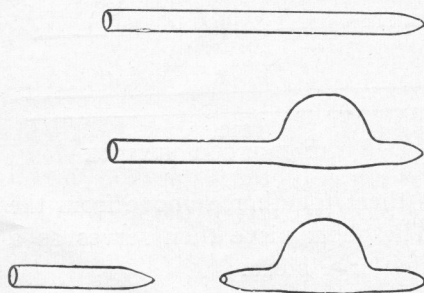

FIG. 32
Close one end of a piece of No. 2 tubing as described above, but leave the end somewhat pointed (1, Fig. 32). Heat the tube on one side at a distance $\frac{1}{2}$ inch from the end and blow a bulb about $\frac{1}{2}$ inch in diameter (2). Heat the tube $\frac{1}{4}$ inch from the bulb, draw it down into a fine tube, and break off the tube, leaving a small hole in the end (3). Place the submarine in a glass of water, and if it floats it is complete.